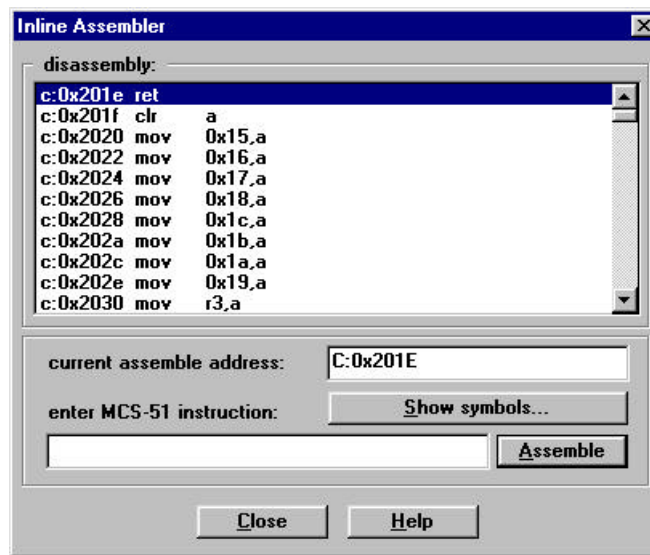

Figure 14
- 2) The Inline Assembler windows opens as in Figure 14.